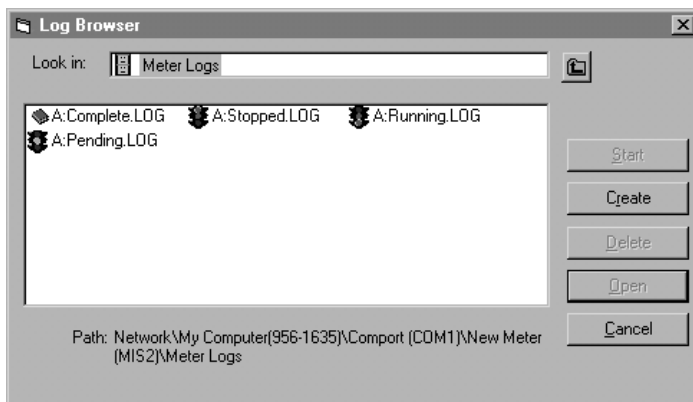

Figure 25: Log browser window
3. Double-click on PC logs to access the stored PC logs, or on the *communication port name* and the *meter name* to access the stored meter logs. In either case, the *log browser* appears similar to Figure 25 below.